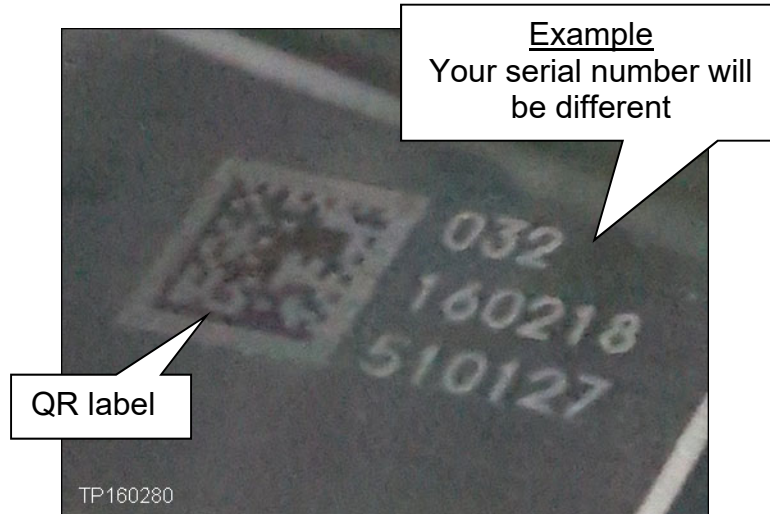

Figure 3A
- If there is no serial number (the area shown in Figure 3A is blank), the ABS control unit (ABS actuator) is OK. **No further repair is required.**
- In the example in Figure 3A, the serial number is **032160218510127** (this is an example - your serial number will be different).